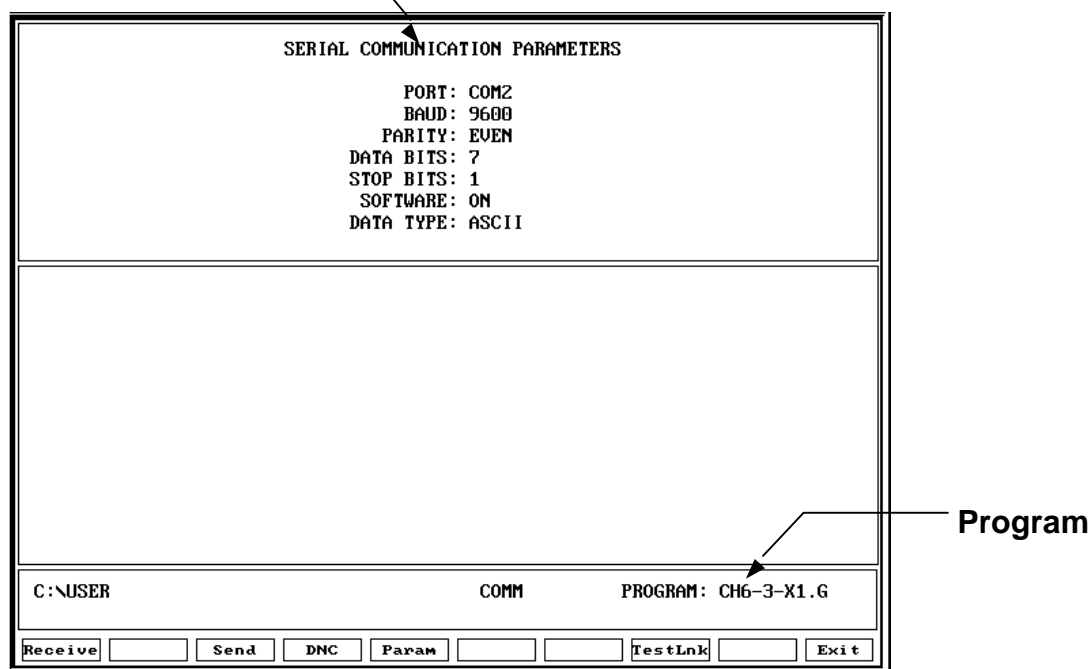

Figure 13-2, Communication Screen
3. Refer to **Figure 13-2**. Highlight **Communications**, and press **ENTER**. The Communication screen displays.